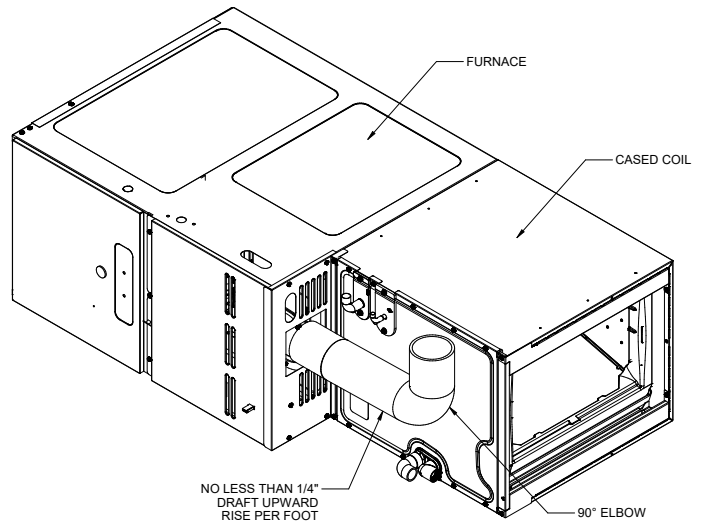

Figure 4B
3. In case of other cabinet sizes match up with 80% Furnace in Horizontal Right application, 2 qty of 90° elbow flue vent must be used. The horizontal run must be $\leq 75\%$ of the vertical rise and no less than $\frac{1}{4}$ " upward rise per foot (see Figure 4B).